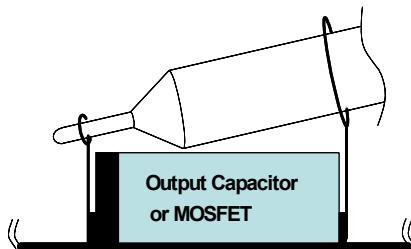
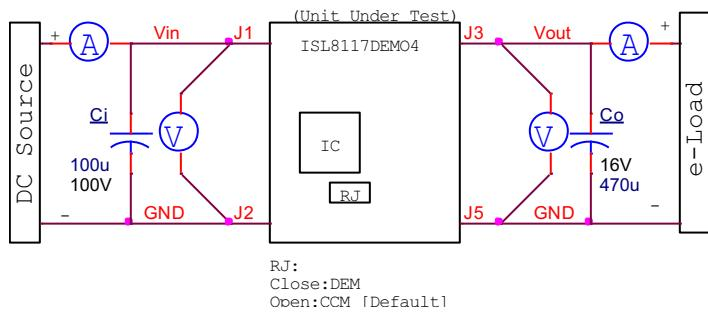

Figure 2. Proper Probe Setup to Measure Output Ripple and Phase Node Ringing
Figure 3. Proper Test Setup
As shown in Figure 3 on page 7, 6V to 60V V_{IN} is supplied to J1 (+) and J2 (-). The regulated 5V output on J3 (+) and J5 (-) can supply up to 6A to the load.
- (1) Ensure that the circuit is correctly connected to the supply and electronic loads before applying any power. Refer to Figure 3 on page 7 for proper setup.
- (2) Turn on the power supply.
- (3) Adjust the input voltage V_{IN} within the specified range and observe the output voltage. The output voltage variation should be within 3%.
- (4) Adjust the load current within the specified range and observe the output voltage. The output voltage variation should be within 3%.
- (5) Use an oscilloscope to observe output voltage ripple and phase node ringing. For accurate measurement, refer to Figure 2 for proper test setup.